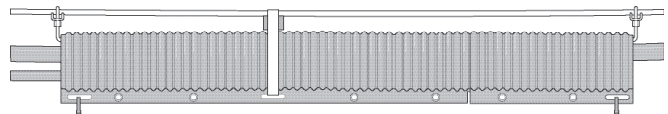

Figure 3
9. Support the completed extended TRAC and TRACE closure to the strand using approved supports and spacers as required by the length of the assembly. Place tie wraps in slots at both ends. (Figure 3)